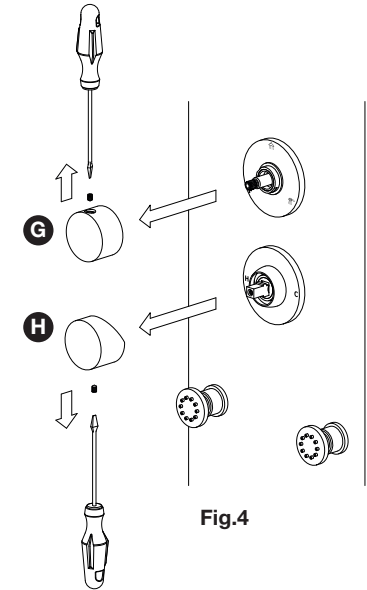

Fig.4
2. With plane screwdriver plano unscrew the screws and remove the covers G and H (see Fig.4).